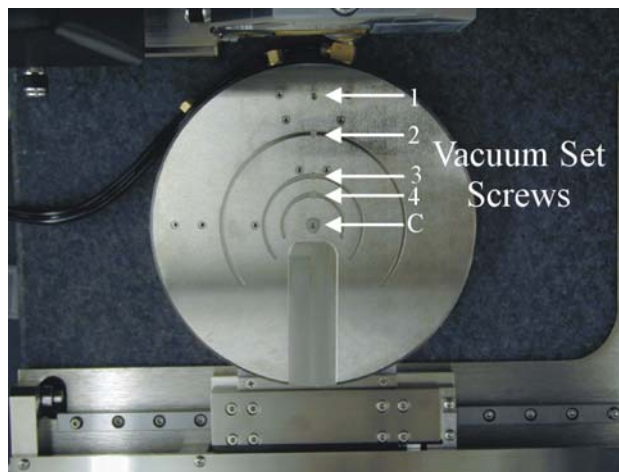

Fig 10: AFM holder plate and vacuum-set screws.
21. Set vacuum-set screws on holder plate according to the substrate to be loaded as follows (refer to Fig. 10):